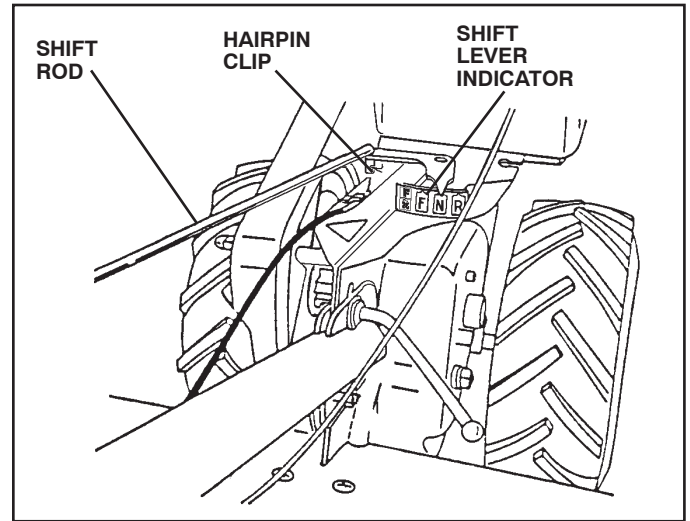

Fig. 7
CONNECT SHIFT ROD (See Fig. 7)
- Make sure shift lever indicator is in "N" position (See Fig. 7)